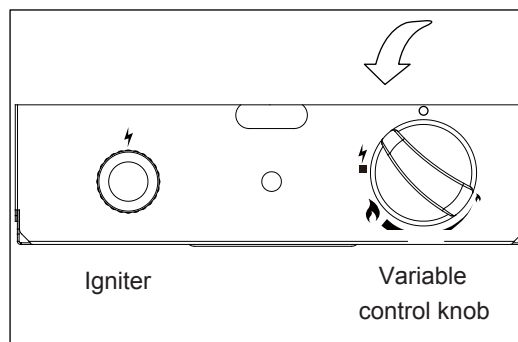

Figure 1
3. Push control knob in and rotate counter clockwise to “pilot” (  ) position (Figure 1).